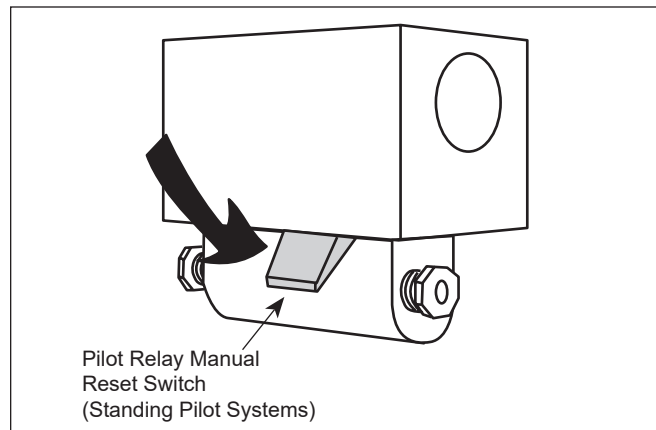

Figure 15. Pilot Safety Relay.
- e. For standing pilot system, press on pilot relay lever (see Figure 15), light pilot and keep relay lever depressed for one minute then release. Once the pilot is lit, turn power switch to "AUTO PUMP."